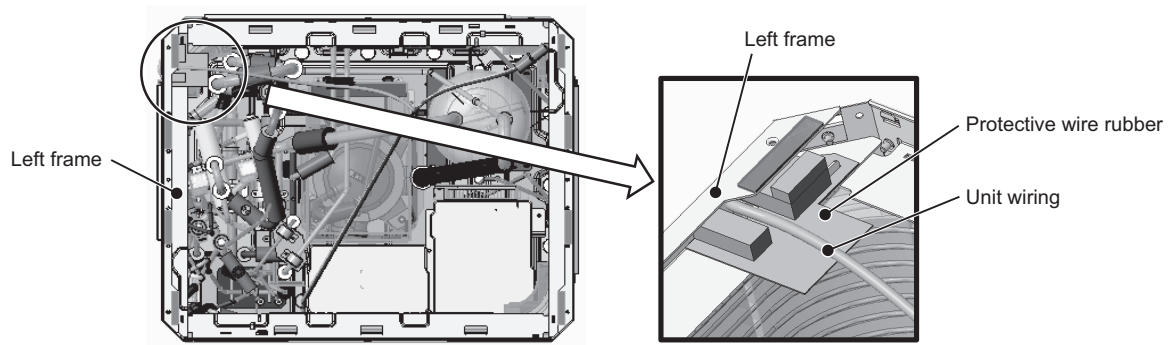

Figure 11
- (13) Remove the unit wiring from the left frame (See Figure 11).